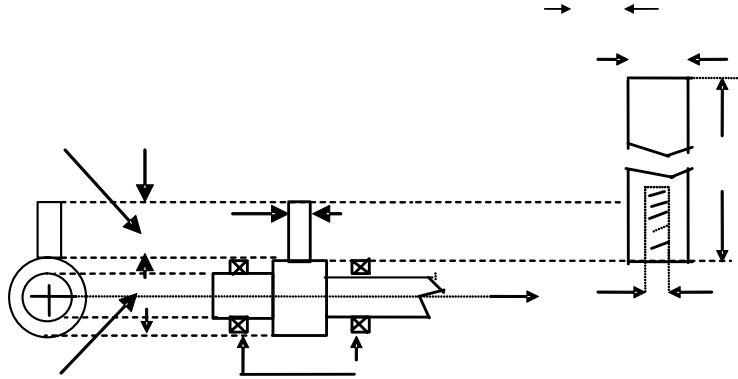

Fig.1. Pole Support Mechanism
- 3.1. The supporting mechanism must be compatible to the diagram shown in Fig. 1 If the potentiometer or encoder is driven through gears then the gear friction must be very small as quantified in section 3.2. It must be able to swing freely from  $-45^\circ$  to  $+45^\circ$  from the vertical position when the vehicle is positioned in region B.
The pole should have the dimension shown in Fig.1, with the length of 990 mm and outer diameter of 12.7 mm with a tolerance of 5%. The pole must have uniform cross section and weigh 117 grams with in a tolerance of 5 %. When the pole is placed with its centre on the middle of a support surface of 1.5 cm width, with both sides overhanging, the pole should not topple. A few such poles will be collected from participants and the competition pole will be picked arbitrarily from the lot by the judge.